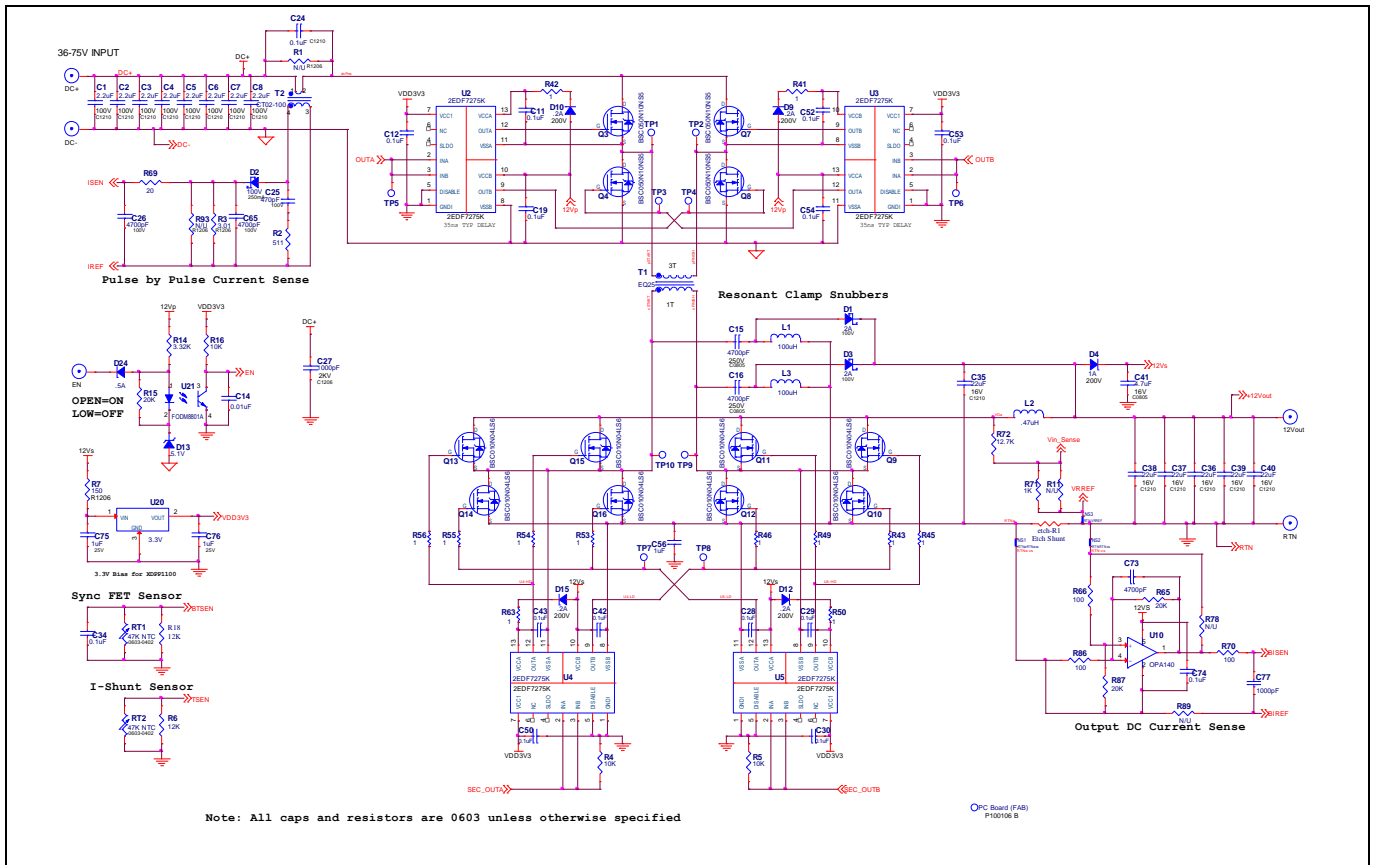

Figure 32 Schematic of 600 W FB-FB power stage
Figure 32 is the schematic of the power stage of the 12 V/50 A FB-FB converter. Primary MOSFETs are OptiMOS™ 100 V/5 mΩ BSC050N10NS5s. Infineon isolated gate driver **2EDF7275K** is used to drive the primary MOSFETs. The **2EDF7275K** provides 1.5 kV functional isolation and 4 A/8 A gate driver capability. The secondary synchronous rectifier (SR) uses two 40 V/1 mΩ BSC010N04LS6s in parallel at each location. The SR MOSFETs are also driven by **2EDF7275Ks** to simplify the BOM.